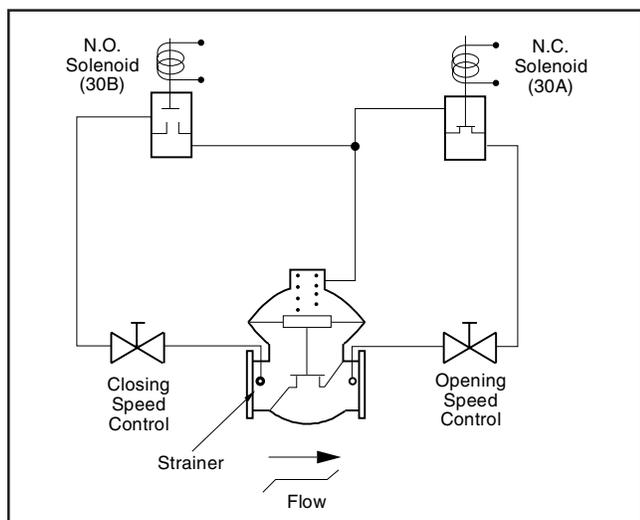

Figure 1 — Model 210 Valve Schematic
The Smith Meter™ Model 210 Valve (Figure 1) fundamentally consists of a Smith Meter™ 200 Series Valve with two solenoid controls. A valve response control device, typically a ball valve, is located between each solenoid and its respective upstream or downstream port. This device is used to fine tune the opening/closing rates of the valve, as well as provide control loop isolation for easier control loop service. Adjustment of these devices controls the flow rate to and from the cover chamber permitting valve adjustments based on product viscosity and pressures.
- Page 3: Highlighted Start-Up section and added caution note to Figures 1 and 2.